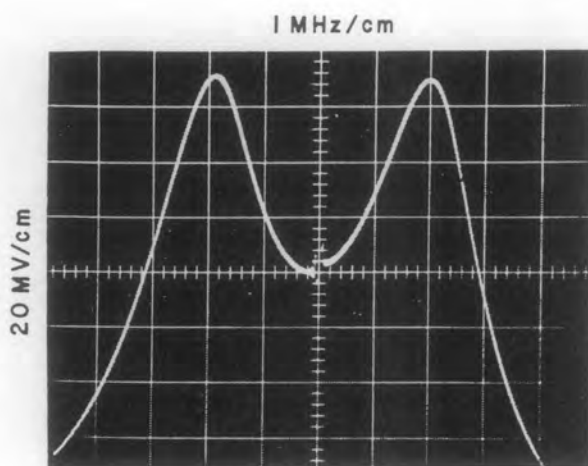

Figure 4-20. Typical VSWR Response, Preselector Network at 90 MHz
- (2) Disconnect the rf input on the receiver from the impedance comparator and substitute a 150 ohm (3:1 vswr) termination. A straight horizontal line should appear on the oscilloscope screen representing a 3:1 vswr response. Use the position control on the oscilloscope to make the horizontal line coincide with the X-axis. Remove the termination from the Z2 input on the impedance comparator and reconnect the rf input on the receiver.
- (3) Set the tuner to 150 MHz and adjust C13 and C17 for a symmetrical vswr response similar to Figure 4-20; however, the valley in the center of the response should only dip to midway between the two peaks and the 3:1 vswr reference at the X-axis. There should be 3 MHz separation just inside the two peaks.
- (4) Set the tuner to 90 MHz and adjust the relative positioning of L3 and L4 for a 3 MHz peak-to-peak response consistent with, but not exceeding the 3:1 vswr reference at the X-axis. Refer to Figure 4-20 for a typical response. Adjust padder inductors L2 and L5 to center the response about the 90 MHz marker.
- (5) Repeat steps (3) and (4) until the interaction is minimized.
The adjustment of A1L3 and A1L4, described in the following step, should not be attempted unless considered absolutely necessary (unless, for instance, the five section inductuner, L1A-E, is replaced). The shape and positioning of A1L3 and A1L4 is extremely critical. If responses similar to Figures 4-20 and 4-21 cannot be obtained, the tuner may require factory alignment.